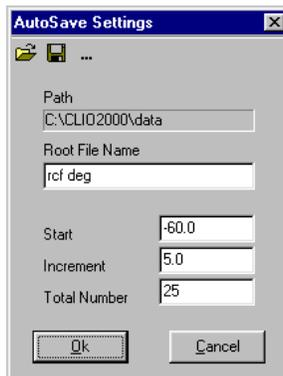

Figure 12.10
Let's start from setting the autosave function. Pressing **Alt-F2** we recall the Autosave Setting dialog (fig.12.10); here we input the desired filename ('rcf deg'), start (-60) increment (5) and total (25) values.